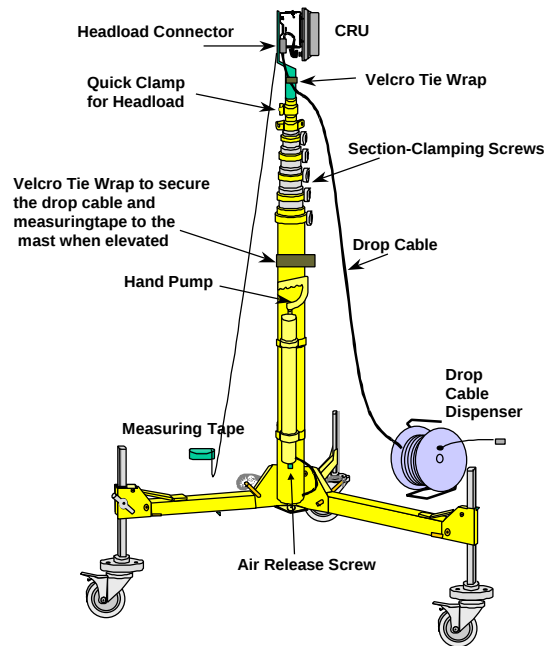

Figure 9. CRU Mounted On Mast
6. Secure the drop cable and measuring tape with Velcro ties to the CRU mounting bracket. See Figure 9.
2. Ensure that the air release screw is closed. See Figure 9.